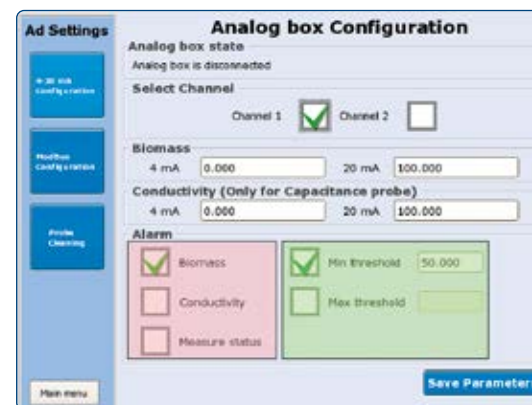

Figure 91: Set Up of the Alarms.
4. Select a trigger for the alarm output. Choose from cell density, conductivity or measurement status. and define the minimal and maximal threshold, where an alarm should be triggered (Figure 91).